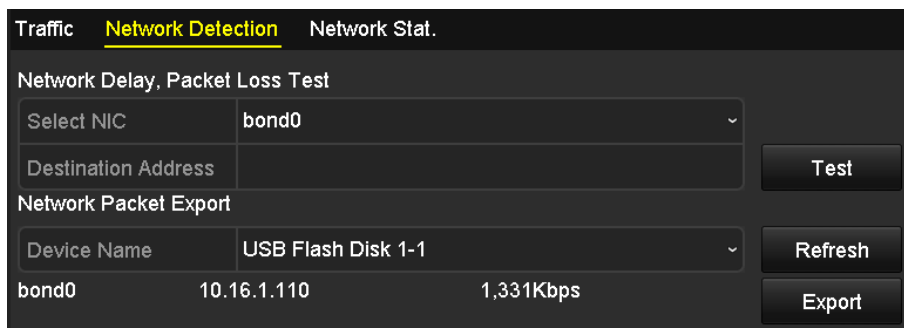

Figure 11. 22 Network Detection Interface
2. Click the **Network Detection** tab to enter the Network Detection menu, as shown in Figure 11. 22.